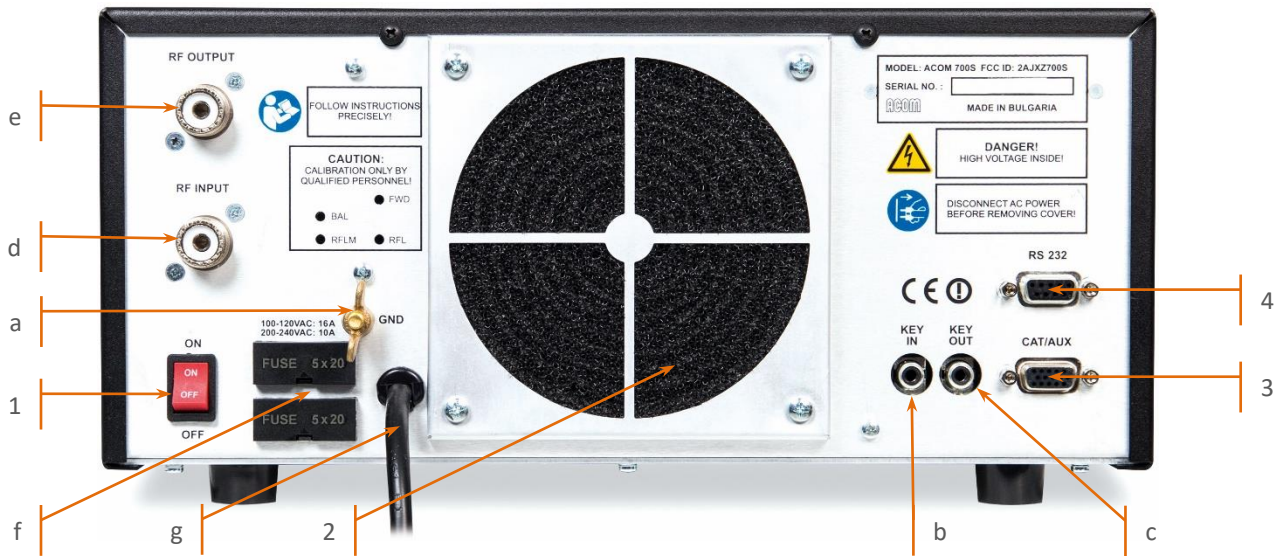

Figure 2-1 Rear panel - Connections
The ACOM 700S linear amplifier is a Safety Class I unit regarding protection against electric shock. The third grounding lead of its mains cord (which is colored yellow with two green stripes) and the ground stud on the rear panel of the amplifier (marked GND, see Figure 2-1 Rear panel - Connections) must be connected to the station's grounding system for safe operation.
Please, see **Figure 2-1 Rear panel - Connections**.
First, connect the wing-nut grounding stud of the amplifier (on the rear panel, marked **GND**) to the station's grounding system (see **Figure 2-1 Rear panel - Connections**).
Make sure you check whether the main fuses installed in your amplifier (see Figure 2-1 Rear panel - Connections \(f\)) correspond to your local mains nominal voltage and if necessary, replace them as described in Section 7.3 Fuse Replacement!
Make sure the main Power Switch (marked "ON/OFF", see Figure 2-1 Rear panel - Connections, 2), on the rear panel is in OFF position and insert amplifier's mains plug into the wall outlet prepared for it. The amplifier remains switched off.
Please, see **Figure 2-1 Rear panel - Connections (3)**.
Please, see **Figure 2-1 Rear panel - Connections (4)**.
After following all instructions in Section **2 INSTALLATION**, check whether the rear panel mains switch (marked "ON/OFF") is turned off (see **Figure 2-1 Rear panel - Connections (1)**). Then insert amplifier's mains plug into the wall outlet prepared for it.